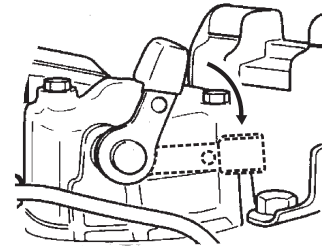

Figure 19. Decompression Lever
- Push down decompression lever (Figure 19) and release.